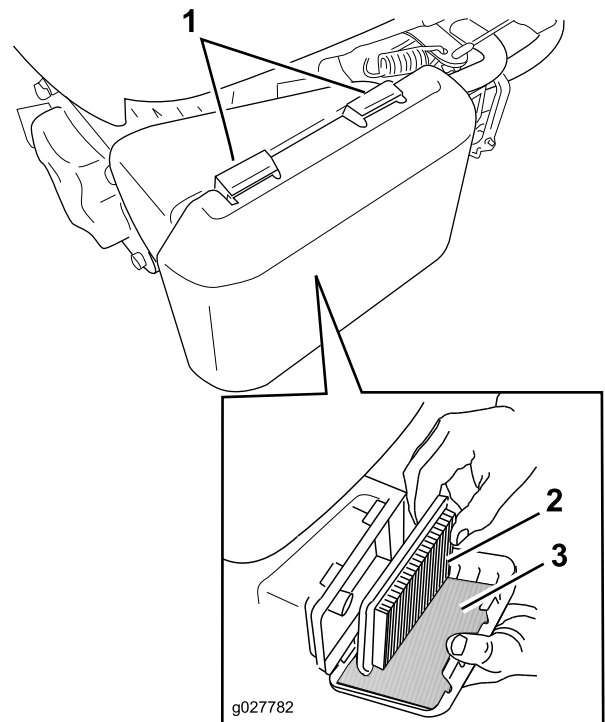

Figure 31
1. Press down on the latch tabs on top of the air-filter cover (Figure 31).
3. Remove the paper air filter and the foam pre-filter (Figure 31).